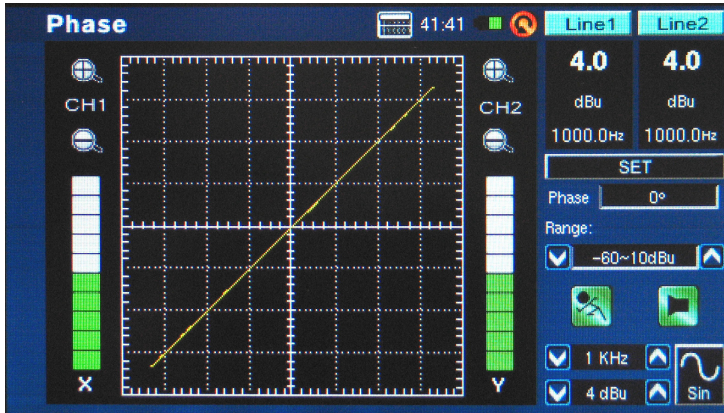

figure 51
5. A 45° line represents a stereo signal that is perfectly panned (or a phase value of 0°, as shown in figure 51). Anything differing from the 45° slant will begin to be out of phase. A line that lays perfectly horizontal (along the X axis) shows two signals that are perfectly out-of-phase and that will cancel each other out when played in mono. A vertical line (a line that runs along the Y axis) shows the two signals are in perfect mono.